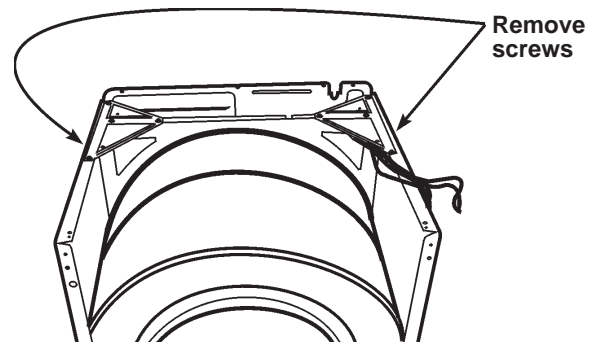

Figure 1
1. Remove the front screw on each brace on top of the cabinet. See Figure 1.